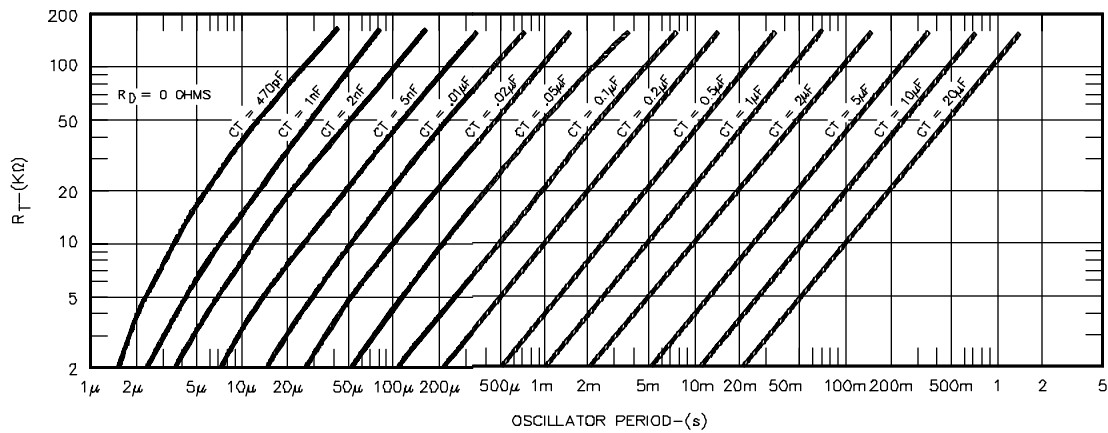

FIGURE 7. OSCILLATOR PERIOD VS. R_T AND C_T
1. With $R_D = 0\Omega$ (pin 11 shorted to ground) select values for R_T and C_T from Figure 7 to give the desired oscillator period. Remember that the frequency at each driver output is half the oscillator frequency, and the frequency at the $+V_C$ terminal is the same as the oscillator frequency.